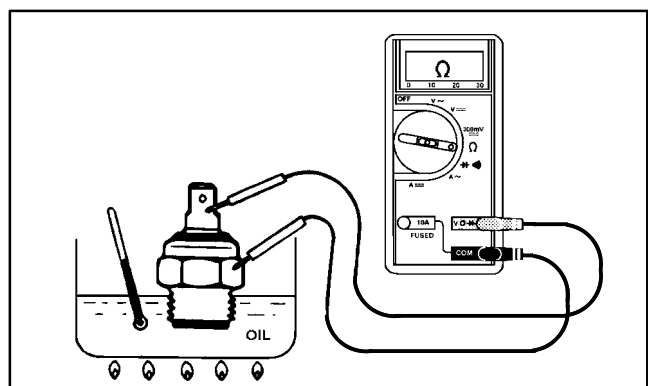

Figure 56
3. Put the end of the switch in a container of oil with a thermometer and slowly heat the oil (Fig. 56).